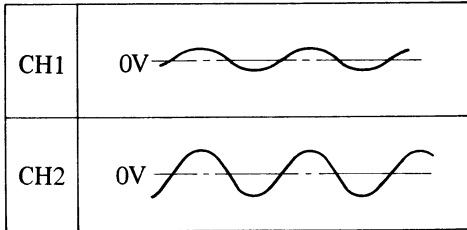

Fig. 2
When either the CH1 or CH2 input signal is smaller as shown in Fig.2, adjust the VOLTS/DIV switches (12) and (13) to obtain sufficient amplitudes.